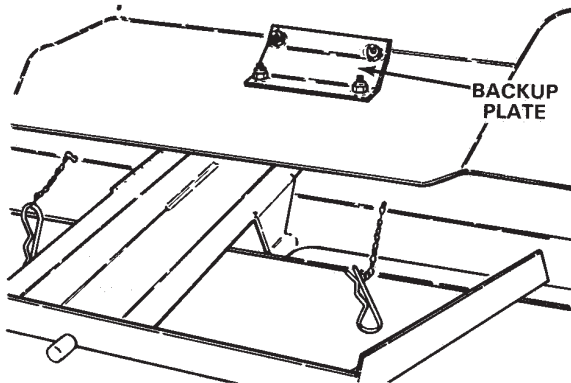

Figure 5
2. Secure mounting frame to grass catcher cover frame with 2 capscrews (3/8 x 1 in.), flat washers, and locknuts (Fig. 5). Position the washers on the top side of the assembly. Tighten all mounting fasteners.